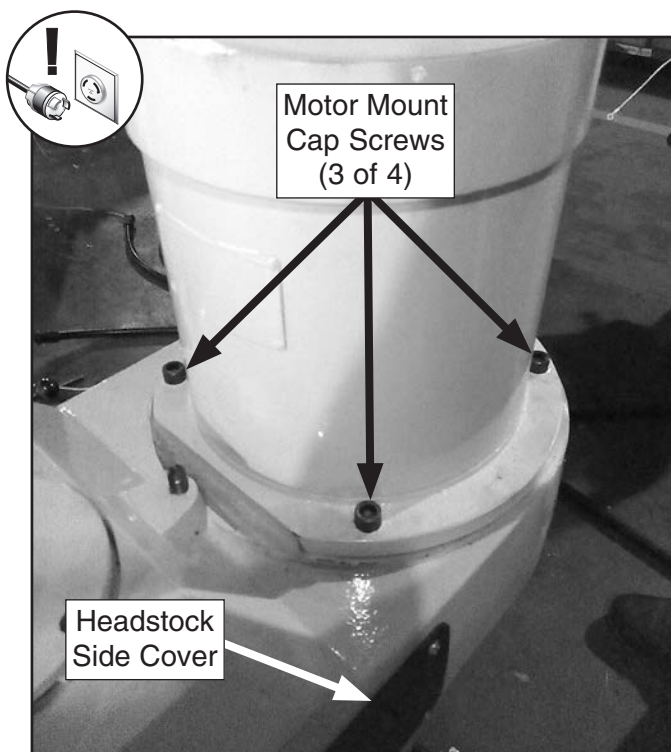

Figure 97. Location of G0797 motor mount cap screws and headstock side cover.
3. Remove (4) motor mount cap screws, then remove motor (see **Figure 97**).
4. Remove headstock side cover (see **Figure 97**) and drive belt.